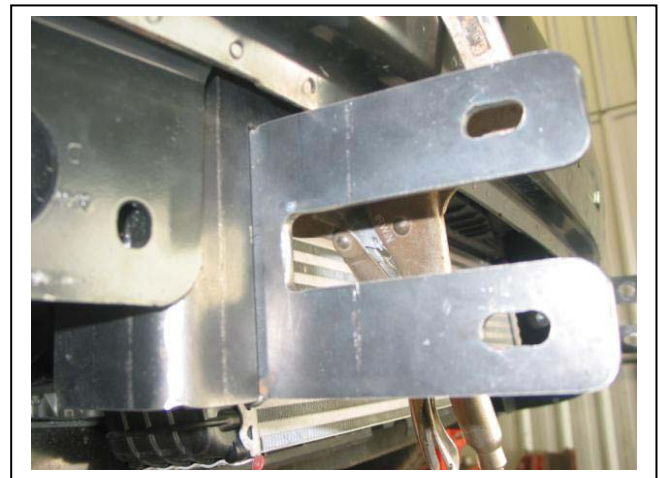

Figure 2: Placement of ECB steel mount. Drivers side shown. Pull forward as far as possible.
5. On drivers side: Place ECB steel mount (supplied) behind bumper support to the inside of crash can as high as possible. **See figure 2.** Mark and drill two 10mm holes on the inside of the crash can. At point directly under drilled hole on underside of crash can, drill hole and enlarge to accept 3/8 bolt and washer. Drill second hole on top of crash can at point directly above crash can, and enlarge to accept 3/8 bolt and washer. **See figures 3, 4 and 5. Blow filings clear and treat all exposed metal with a rust inhibitor.** Fit two 3/8 x 1 1/2 bolts on wire, flat washers, spring washers and nuts to pre drilled holes. **Finger tighten only.** Cut off wire tails and crimp onto crash can.